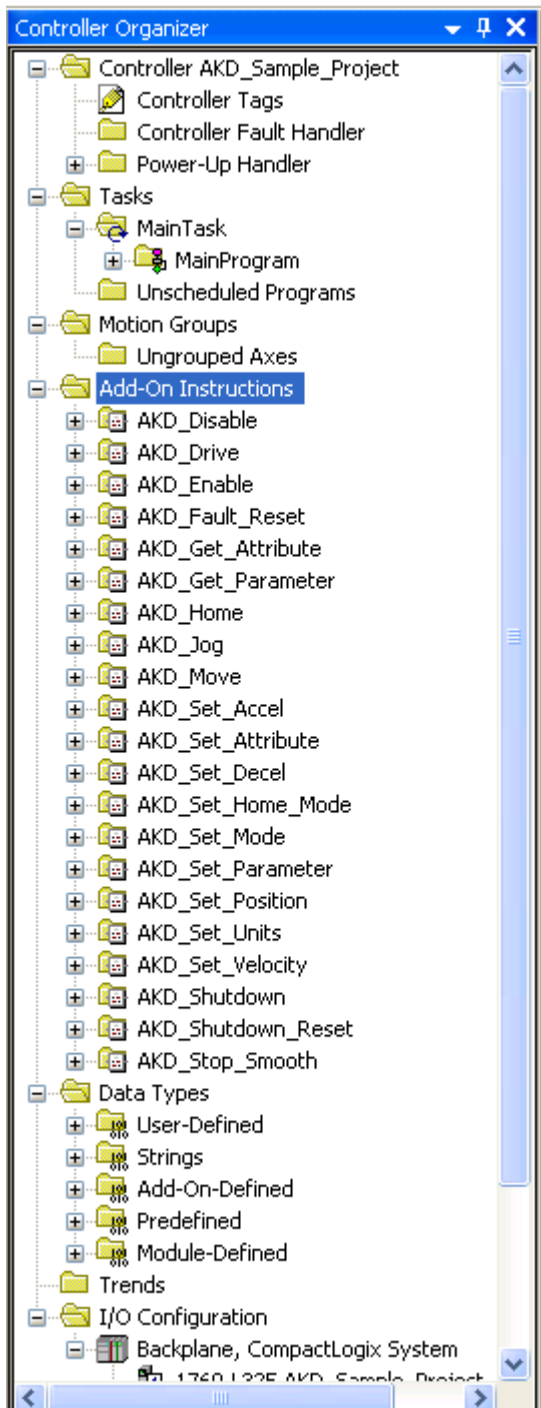

Figure 5-11: AOI's Successfully Imported
11. The instructions should now show up under the “Add-On Instructions” folder (Figure 5-11: AOI’s Successfully Imported)